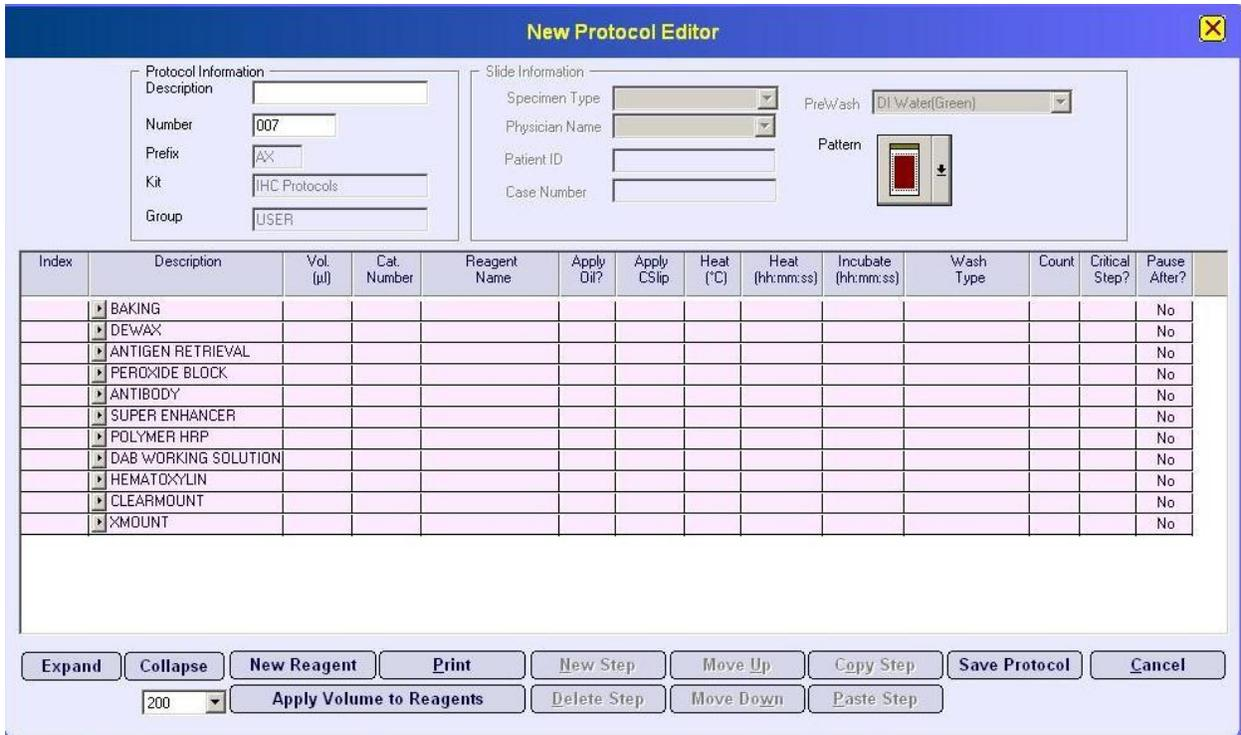

Figure 28: New Protocol Editor Window
2. In the subsequent window, **New Protocol Editor (Fig.28)** Create a new protocol with the available template. Name the protocol and save it.